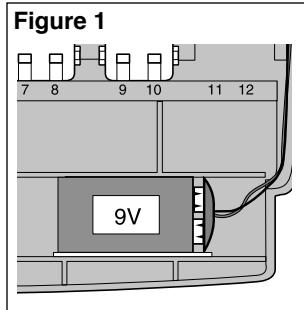

Figure 1
1. Slide the lower housing cover toward the bottom of the controller to remove. Locate the battery wire clip and attach it to the battery terminals. Place the battery into the cabinet compartment as shown in **Figure 1**.